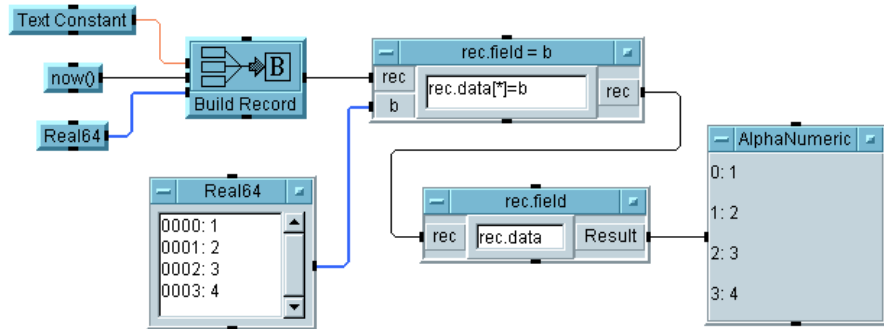

Figure 5-12. Using the Set Field Object
6. Run the program and save it as `setfield.vee`. The program should look like Figure 5-12.